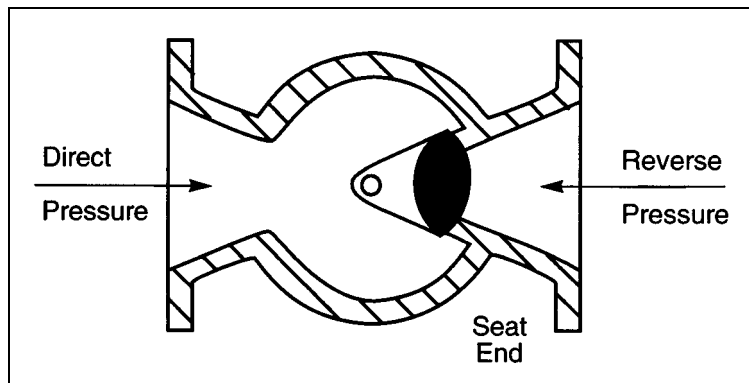

Figure 3 – Pressure Direction
3. Close the valve with the pressure specified in Table C and Table D for the appropriate size and pressure direction—See Figure 3.